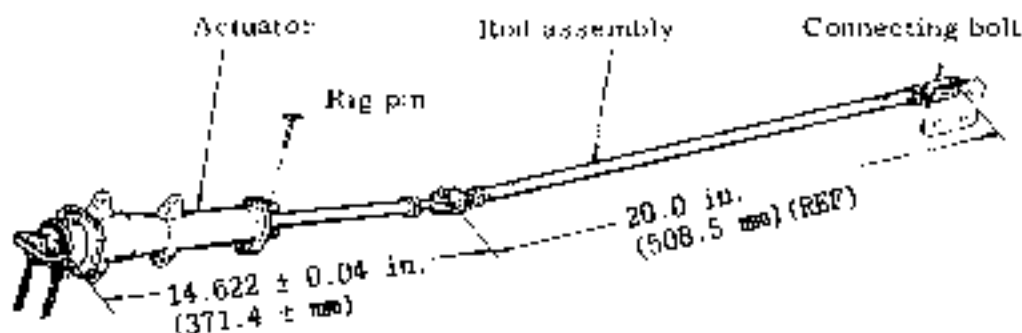

Fig.5-60 Rudder trim actuator and rod assembly
- (2) Insert rig pin into drum of rudder trim in center pedestal.
- (3) Disconnect cable from turnbuckle at F STA 9625.
- (4) Remove chain guide. Remove chain from sprocket. Pin may be removed from connecting part of cable and chain to facilitate removal of chain.
- (5) Remove 4 bolts attaching trim actuator. Remove trim actuator from aircraft.
- (6) Install in reverse sequence of removal. Precautions for installation of trim actuator are shown below.
- (a) Before installation, place trim actuator and rod assembly in neutral position and ensure dimension as indicated in Fig 5-60.